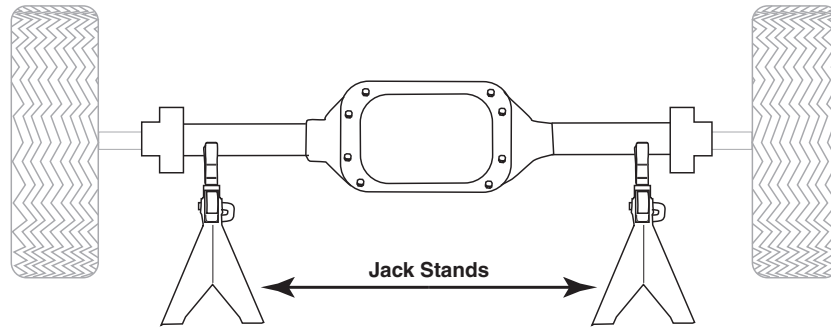

fig. 2
1. Raise the vehicle and support the axle with jack stands, setting the jack stands as wide as possible on the axle. And/or support the vehicle in a way (safely) that will allow the axle to be dropped if using a hoist of some kind (Fig. 2).